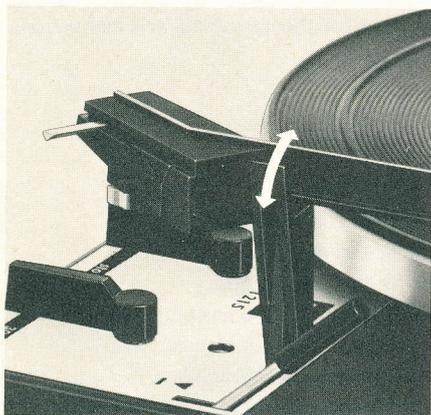

Fig. 7
Then choose the correct speed ②, push slide switch ⑩ to exact record diameter (7, 10, 12") and release tonearm (fig. 7). The Dual is now ready for play.